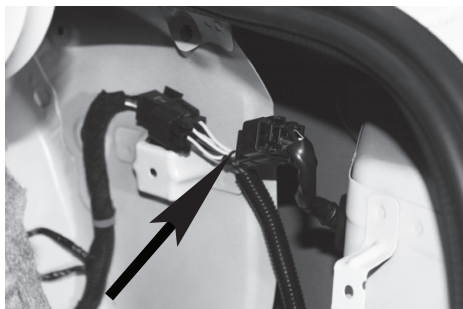

Figure 4
5. Starting on driver side position RV harness with connectors containing Yellow wires between separated vehicle harness connectors. Press connectors firmly into vehicle connectors until they lock into place shown in **Figure 4**. Pull on connectors to ensure the locks are engaged.